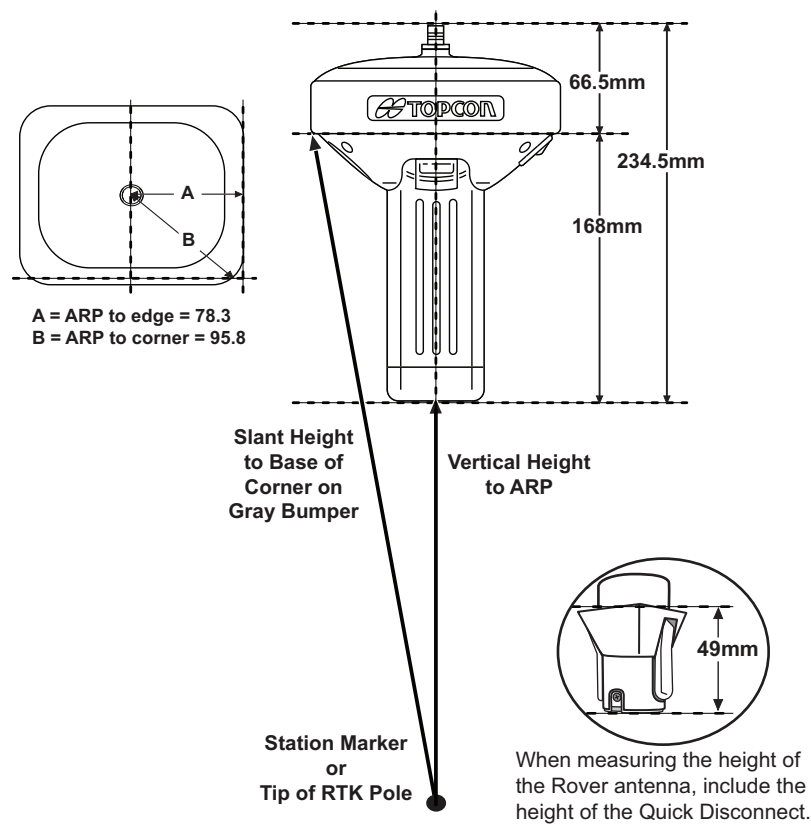

Figure 4-3. Antenna Offset Measurements
1. Measure the antenna height above the control point or marker, either the slant height or the vertical height (Figure 4-3 on page 4-6).